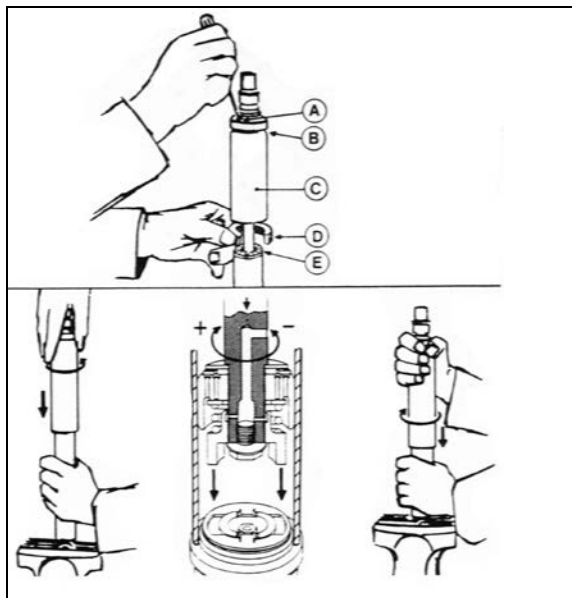

FIGURE 31: DAMPER
To adjust opening and closing cycle speed on damper (Figure 31):
the recesses of the foot valve assembly (Figure 31).
*In Figure 31, if there is an indentation (B) in the dust cap (C) and the cover shows two holes (A), the damper is fitted with a bump rubber (D). If so, fully extend the damper and insert a round bar or screwdriver through the holes. Push the bump rubber down and remove. Remove the split plastic collar (E) (if fitted) from the piston rod.*
*Where a bump rubber was installed, refit same inside the dust cap and by fully closing the damper, the rubber will seat again at top of the dust cap. Refit the split plastic collar E (Figure 31).*